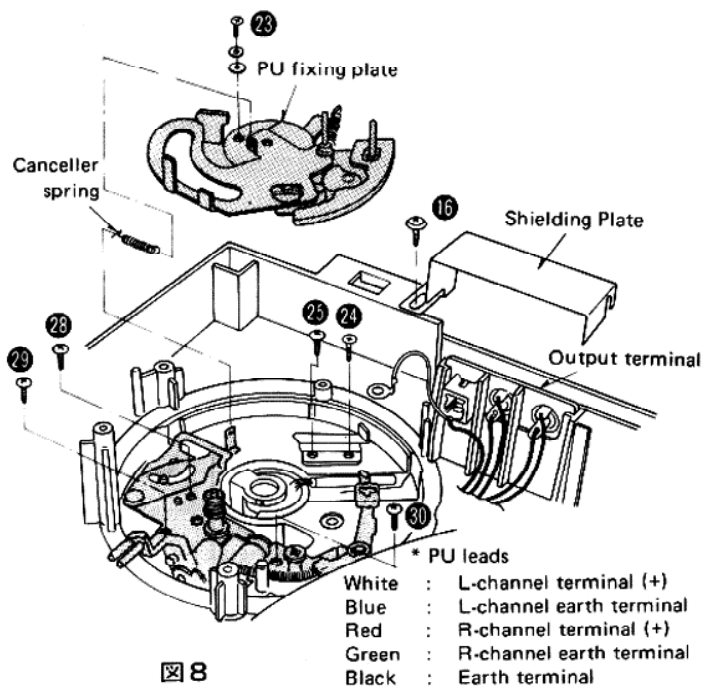

Fig. 6
2. Remove the canceller spring from the PU fixing plate. (Fig. 6)